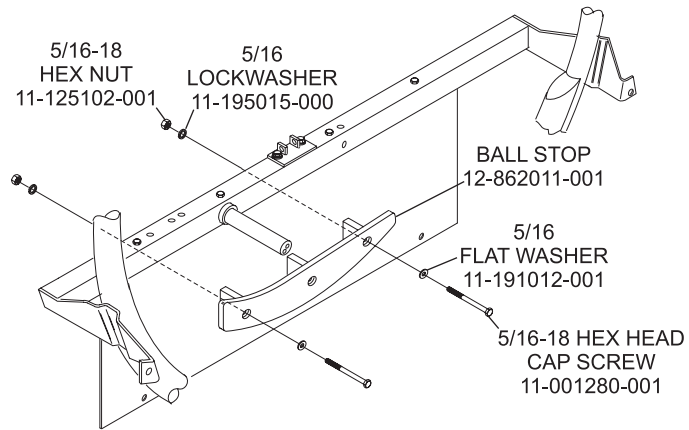

Figure 6
7. Attach the remaining hardware as in step 5. Refer to Figure 6.